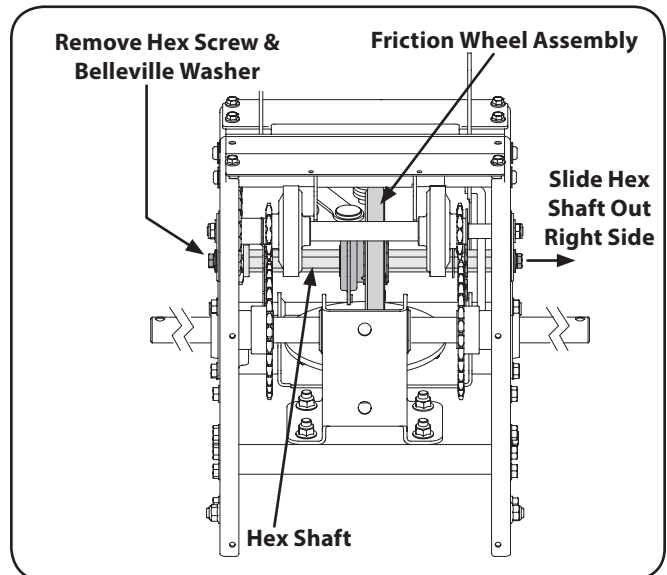

Figure 7-10
4. Using a 3/4" wrench, hold the hex shaft and remove the hex screw and belleville washer from left side of the frame. Refer to Figure 7-10.